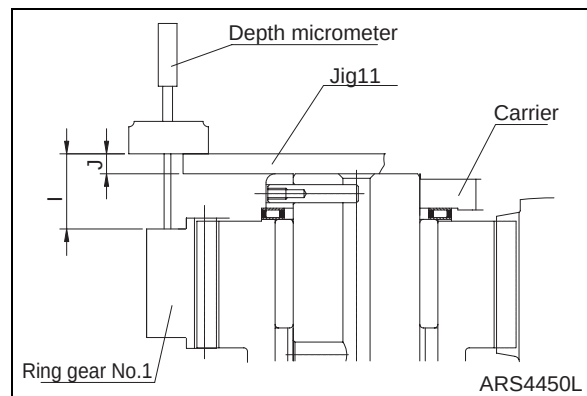

Figure 80
1. Measure (G) (H), and (I) of Figure 80, using a depth gauge and jig (11). Measure at four points and (I) is calculated using the largest value.